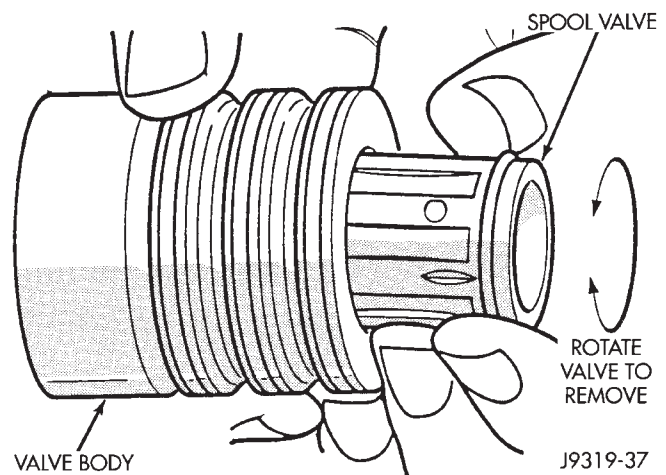

Fig. 13 Spool Valve
(6) Remove spool valve from valve body by pulling and rotating the spool valve from the valve body (Fig. 13).